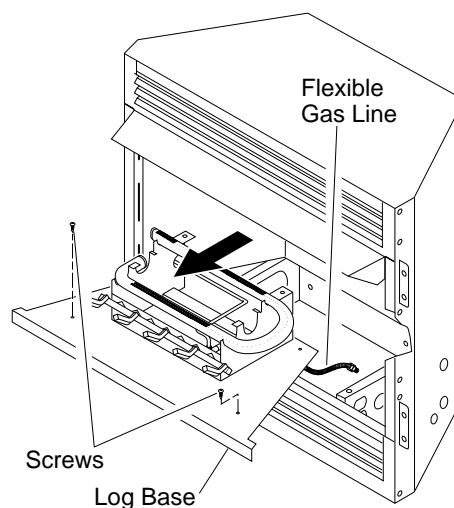

Figure 13 - Removing Log Base from Fireplace
1. Remove screws that attach log base assembly to fireplace (do not discard). Carefully lift up log base assembly and remove from fireplace, taking care to pull flexible gas line through the access holes (see Figure 13).